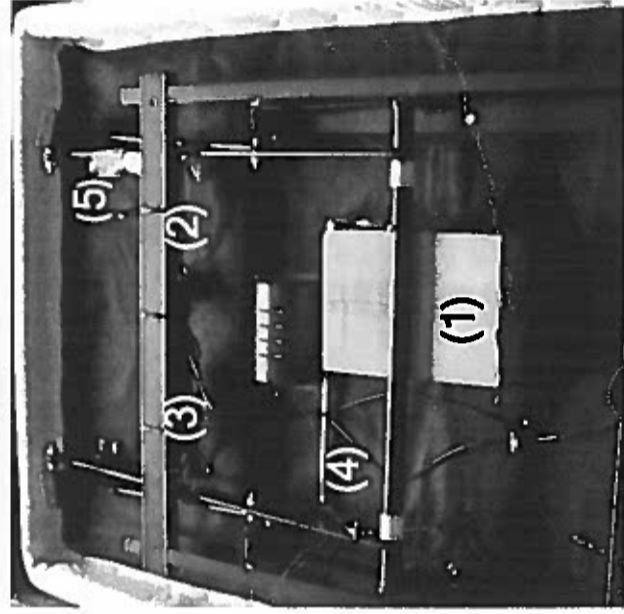

Fig.1.1 Accessories packed at the head end of the bed.
The carton contains the pre-assembled bed, a small carton with four detachable legs (1), the remote control (2), the power supply (3), the chromium plated mattress retainer bar (4), a small plastic bag with 4 self locking bolts (5), the user manual (not shown in Fig. 1.1) and this installation instruction.